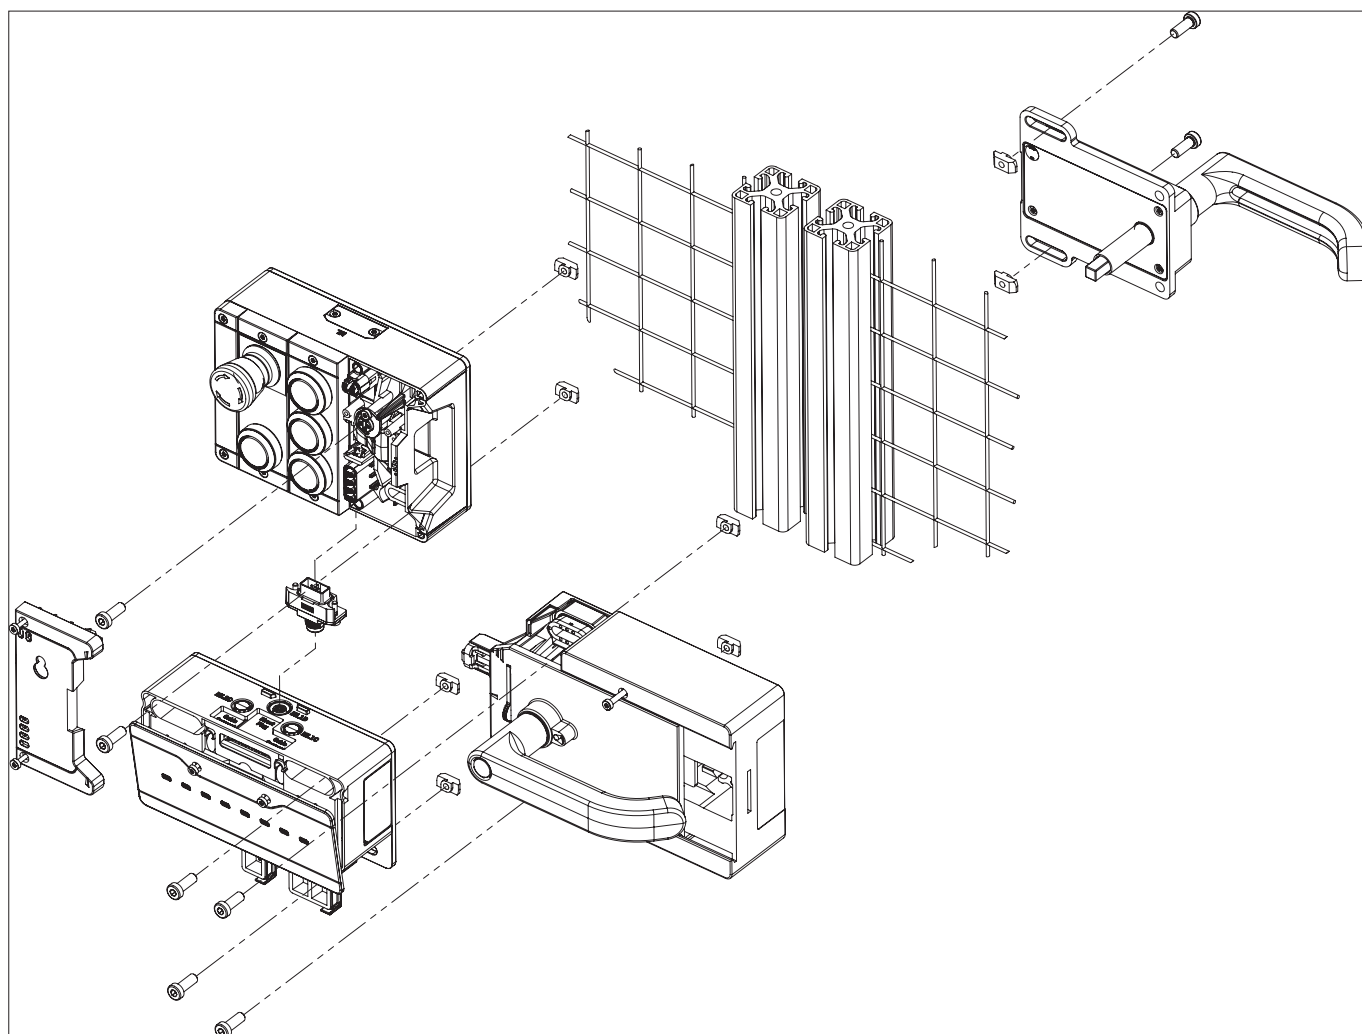
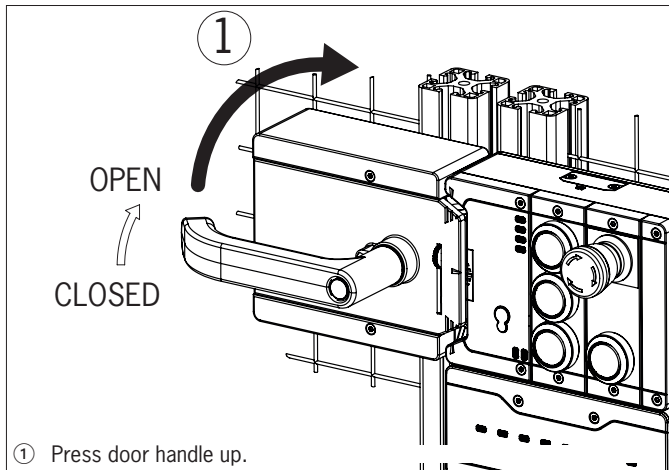
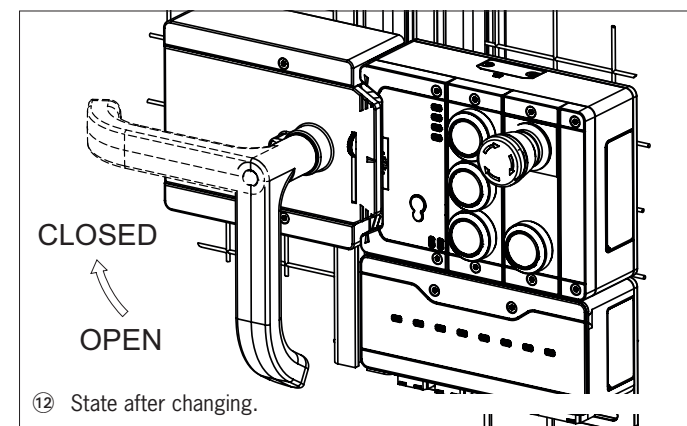

Figure 8: Installation example for door hinged on the right (general view)
Figure 10: Changing actuating direction, step ①
Figure 15: Changing actuating direction, final state
- › Adjust escape release axis at right angles to the handle module. See *Figure 8*.
- › During mounting, pay attention to correct alignment. Use the alignment aids on the housing for the interlocking/locking module and on the housing for the handle module (see *Figure 8*).
For mounting steps, see *Figure 8* and *Figure 10* to *Figure 15*.
- › The system is mounted the other way up for doors hinged on the left. In other words, the guard opens by pressing up the door handle (see *Figure 10*). For this reason the actuating direction of the door handle must be changed (see *Figure 10* to *Figure 15*).